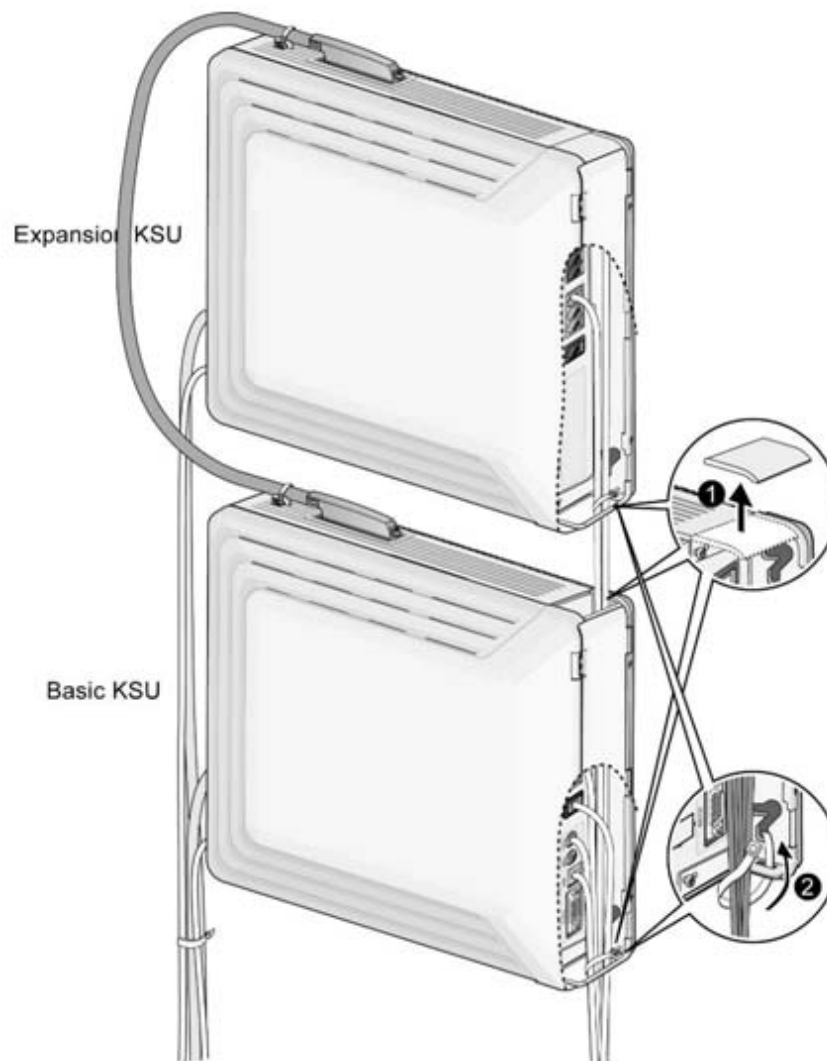

Figure 5-1 Wall Mount Wiring
2. Connect cables to the CO/STA port and the MOH/RS-232C ports as shown in Figure 5-1.